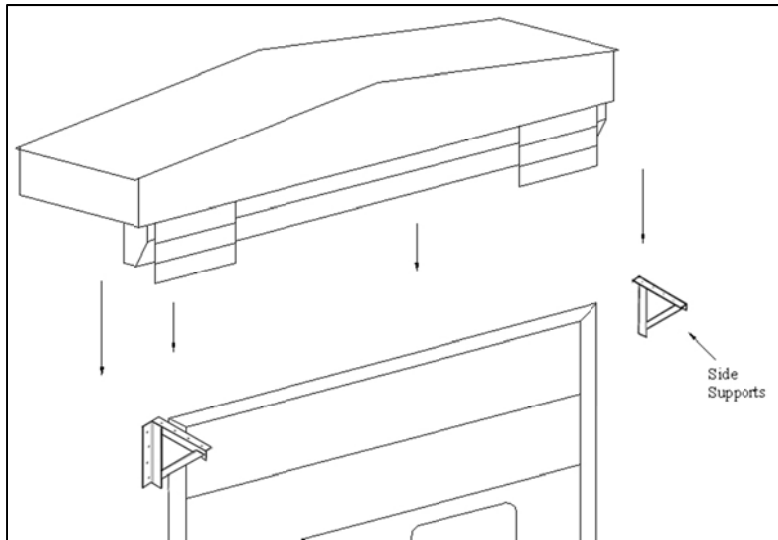

Figure 3
Mount the head frame on top of the two support angles on inside edge of side supports and fasten to the wall using five (5) - 3/8" (10mm) x 3" (76mm) sleeve anchors or suitable equivalent. Also attach head frame to galvanized side supports with #14 x 1.5" (38mm) wood screws supplied. See Figure 3.